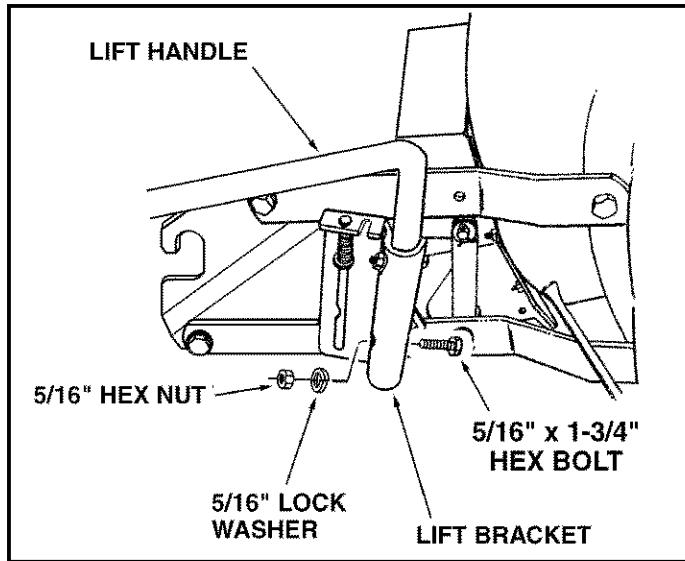

FIGURE 15
- Place the lift handle into the lift bracket on the right side of the snow thrower. Fasten the handle to the bracket using two 5/16" x 1-3/4" hex bolts, 5/16" lock washers and 5/16" hex nuts. See figure 15.